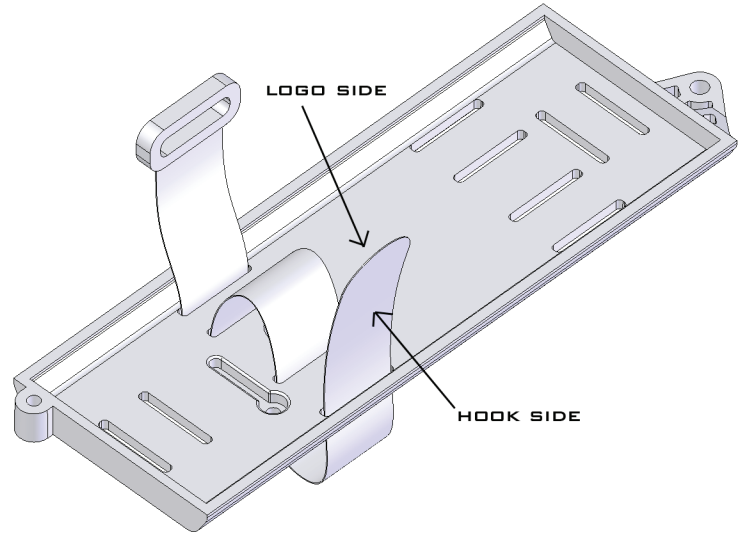

FIG. 4B - BATTERY TRAY INSTALLATION
Next, position the battery tray on the chassis (see fig. 4B). Working around the loose battery straps insert the supplied fasteners through the battery tray and the chassis in the order
shown in the diagram (fig. 4B):
3. PROCEED TO FIG. 4B